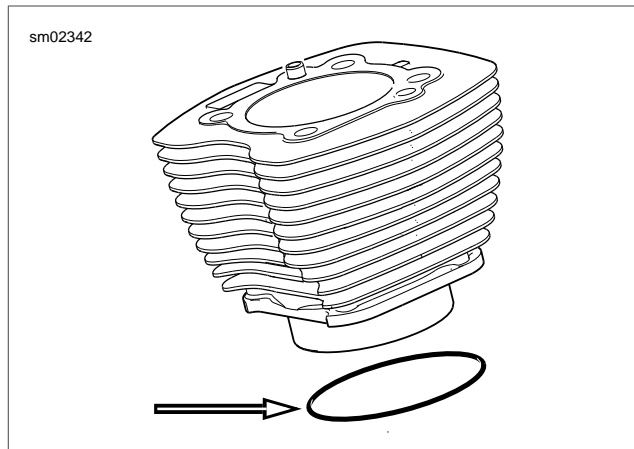

Figure 3-34. O-ring Seal For Cylinder
2. See Figure 3-34. Apply a very thin film of clean H-D 20W50 engine oil to **new** o-ring seal for the bottom of the cylinder liner. Install **new** o-ring seal.